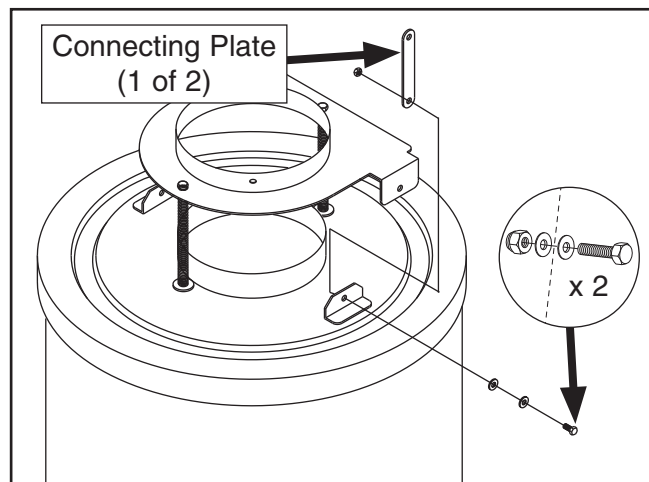

Figure 23. Installing drum lid connecting plates on drum lid.
31. Install drum lid connecting plates with (2) $\frac{3}{8}$ "-16 x 1" hex bolts, (4) $\frac{3}{8}$ " flat washers, and (2) $\frac{3}{8}$ "-16 lock nuts (see **Figure 23**).